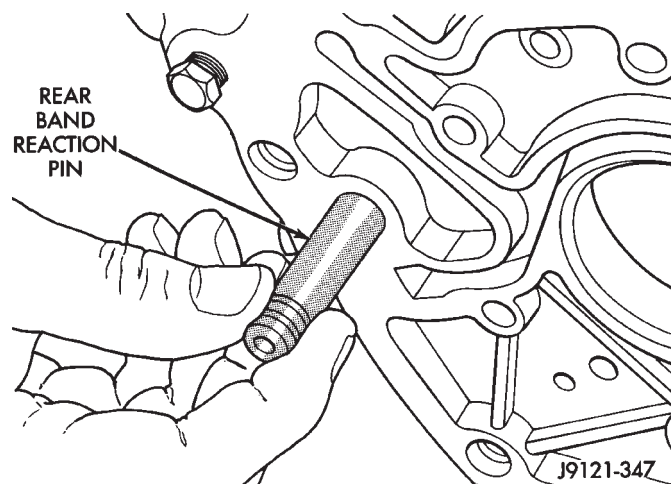

Fig. 159 Installing Rear Band Reaction Pin
(8) Install and tighten overrunning clutch cam bolts to 17 N·m (13 ft. lbs.) torque. Note that clutch cam bolts are shorter than piston retainer bolts.
(9) Lubricate clutch cam rollers with transmission fluid.
(10) Install rear band reaction pin (Fig. 159). Be sure pin is fully seated in case.